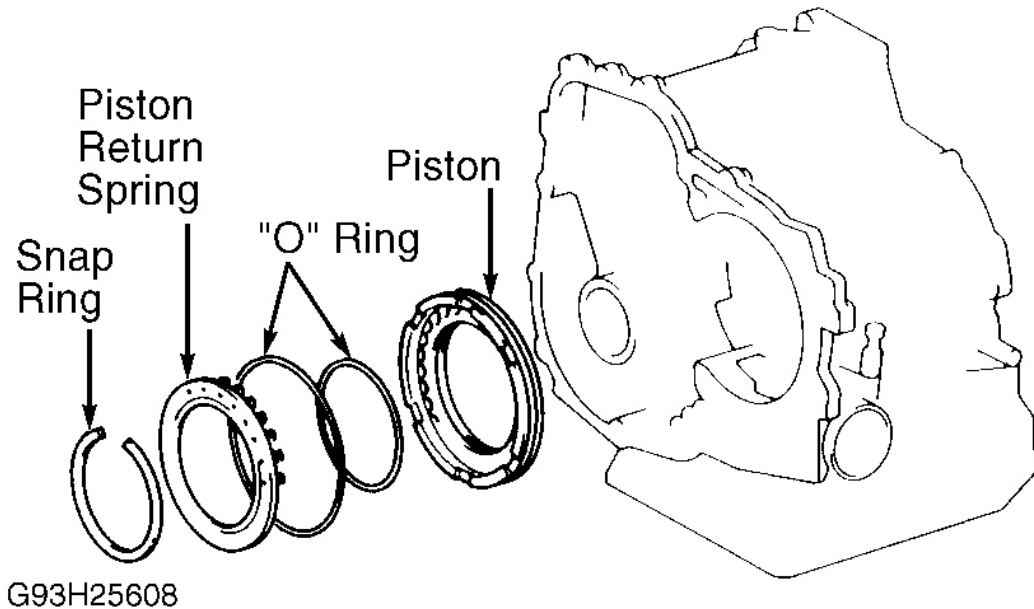

Fig. 35: Exploded View Of 1st & Reverse Brake Piston
1. Using appropriate compressor, compress springs. See **Fig. 35** . Remove spring retainer snap ring and compressor.
1. Install NEW "O" rings on piston and coat with ATF. Install piston in transaxle case with spring seats facing upward. Position piston return spring assembly and snap ring in place. See **Fig. 35** .